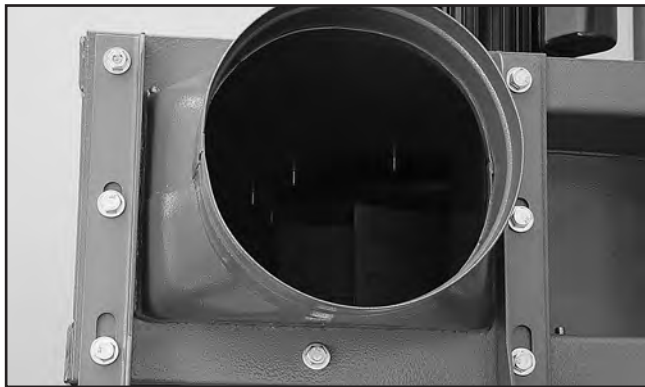

Figure 18. Outlet port and filter L-braces installed.
12. Attach the outlet port and filter L-braces to the blower housing with the outlet gasket between the outlet port and the housing, as shown in **Figures 18–19**, using (8) $\frac{5}{16}$ "-18 x 1" hex bolts, (16) $\frac{5}{16}$ " flat washers, and (8) $\frac{5}{16}$ "-18 hex nuts.